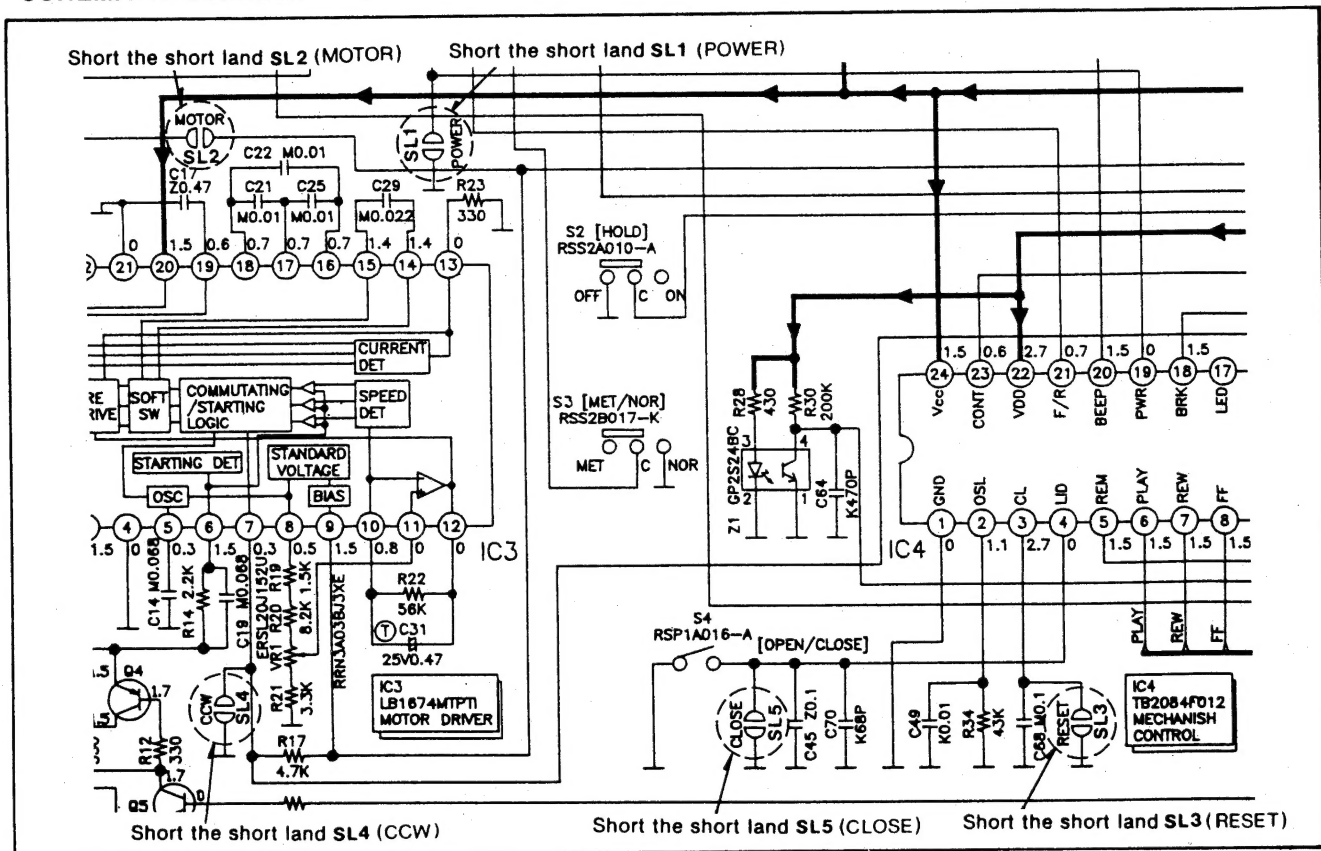

**Fig. 1**
- 1) Set the condition as shown in Fig. 1 in accordance with Disassembly Instructions. (DO NOT remove the solders on the head FPC.)
- 6) Connect the battery (+) terminal and the battery (–) terminal foil to the power source (DC 1.5V) with a lead wire. (Fig. 1)
- ① You have to turn off the power when you want to change mechanism mode.
- ② Even if the mechanism unit is switched to the REV mode in Step 6, the head change-over switch (IC1) will remain in the FWD position, so set the FWD mode to check the audio.